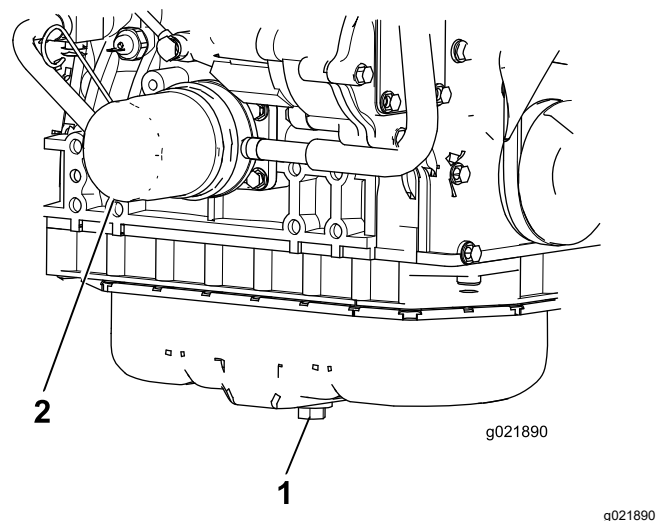

Figure 73
2. Remove the oil filter (Figure 73). Apply a light coat of clean oil to the new filter seal before screwing it on. **Do not overtighten.**
1. Remove the oil-drain plug (Figure 73) and let the oil flow into a drain pan. When all the oil is drained, install the drain plug.